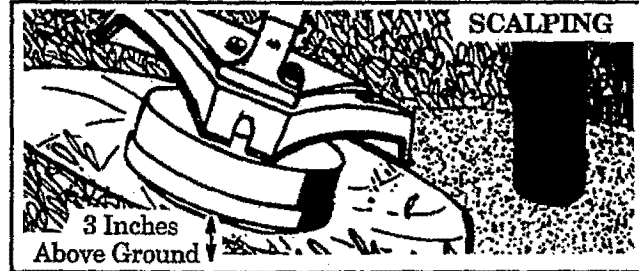

Figure 12
2. **SCALPING** - Figure 12 . The scalping technique removes unwanted vegetation. Hold the bottom of the trimmer head about 3 inches above the ground and at an angle. Allow the tip of the line to strike ground around trees, posts, monuments, etc. *This technique increases line wear.*